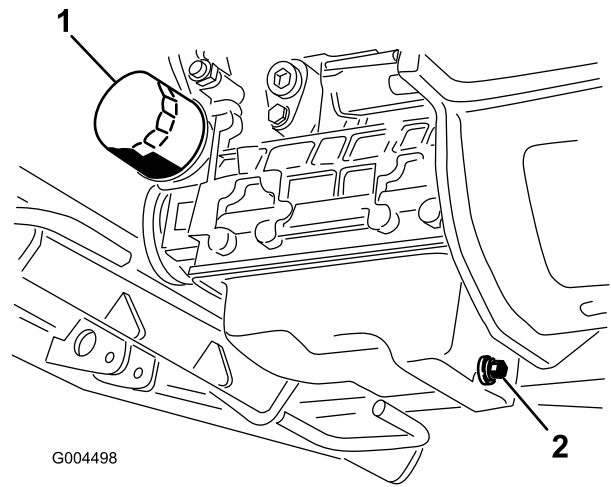

Figure 46
6. Remove and replace the oil filter (Figure 46).
3. Set a drain pan under the oil pan and in line with the drain plug (Figure 46).